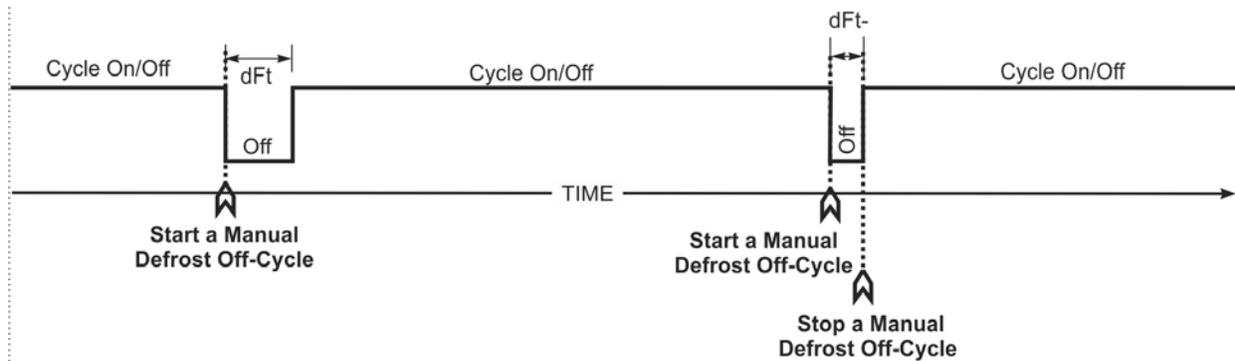

Figure 10: Manual Defrost Only: Behavior When dl is Set to 0
4. Or, change the SdF value to 0 during a defrost cycle and return to normal On/Off operation. See Figure 10.